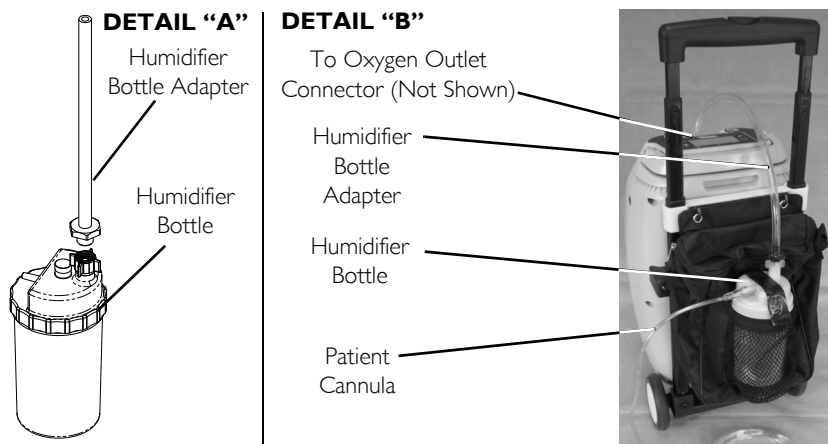

FIGURE 6.4 Humidifier Attachment
NOTE: For this procedure, refer to FIGURE 6.3 and FIGURE 6.4 on page 25.
3. Attach the humidifier bottle adapter to the humidifier bottle by turning the wing nut on the humidifier bottle counterclockwise until it is securely fastened. See DETAIL "A" in FIGURE 6.4.
4. Place the humidifier bottle/adapter assembly in the outside pocket of the accessory bag. Attach the accessory bag to the pull cart as shown in FIGURE 6.4.
6. Attach oxygen tubing from the humidifier bottle/adapter assembly to oxygen outlet connector on the concentrator. See DETAIL "B" in FIGURE 6.4.
7. Attach the cannula/patient supply tubing to the humidifier bottle outlet. See DETAIL "B" in FIGURE 6.4.